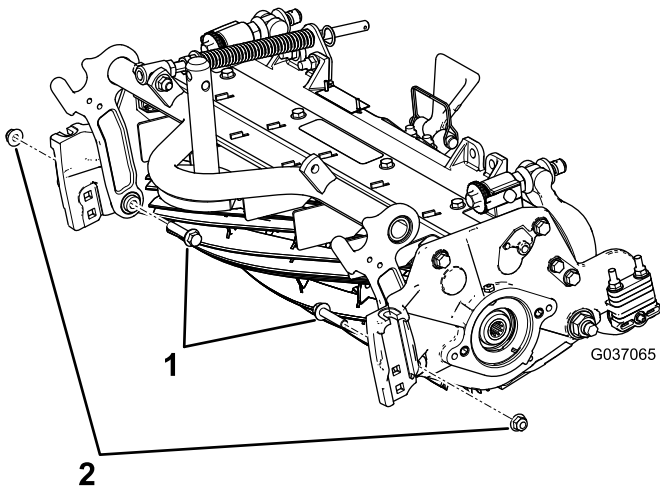

Figure 7
- B. Install the 2 existing flange-head bolts from the inside of the cutting unit, and secure them with the 3/8-inch flange locknuts (Figure 7).